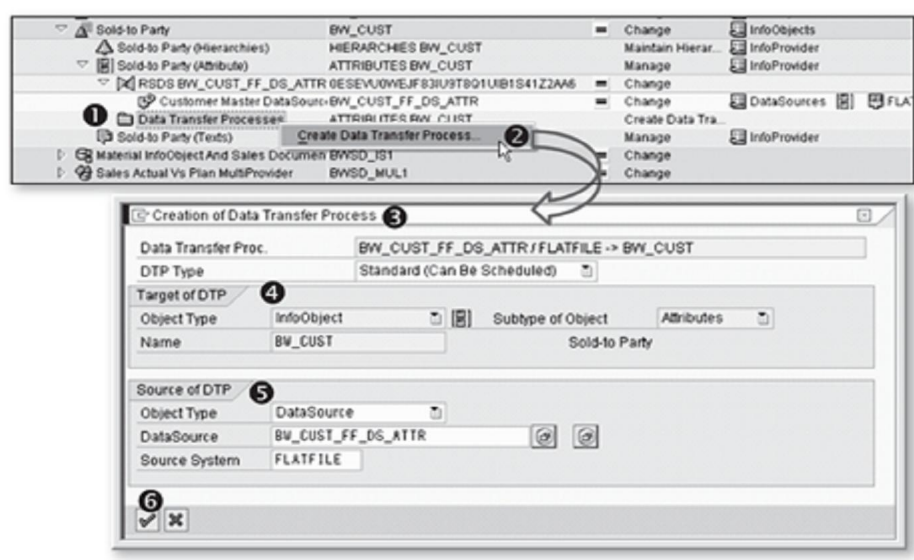

Figure 7.25 Creating Data Transfer Process
Select Data Transfer Processes, and then, from the context menu, select Create Data Transfer Process (2 of Figure 7.25). The Creation of Data Transfer Process box appears (3). Because you've started the creation of the DTP from the associated transformation, all of the required information is automatically supplied (4 and 5). Click the Continue icon (6).